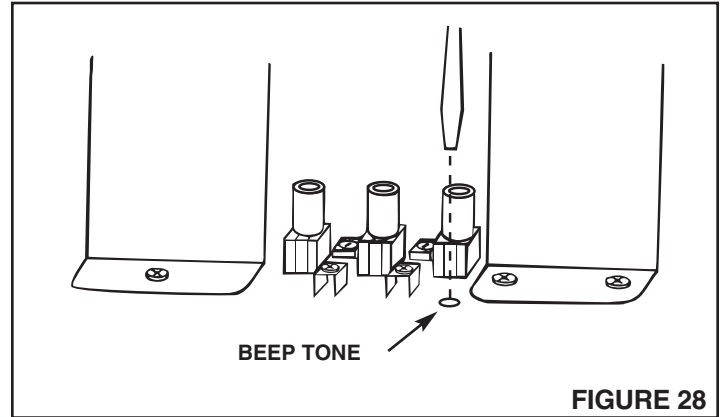

FIGURE 28
1. **Refer to Figure 28.** Using a thin-blade screwdriver, adjust the **BEEP TONE** volume control counter-clockwise as viewed from the rear of the master station panel to reduce the **BEEP** level.